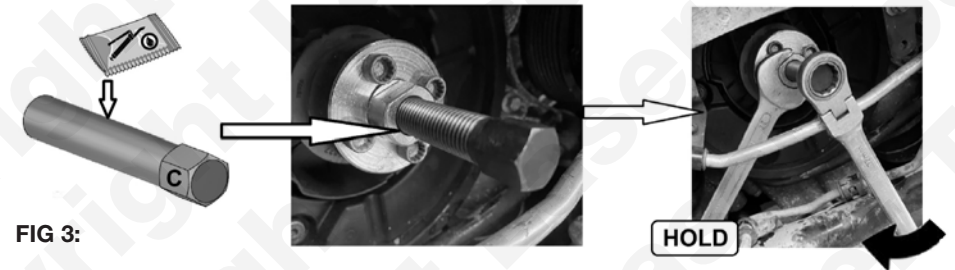

FIG 3:
Lubricate the force screw thread (C) with molybdenum disulphide grease and screw into the puller body. Using hand tools only pull the pulley off as shown in figure 3.